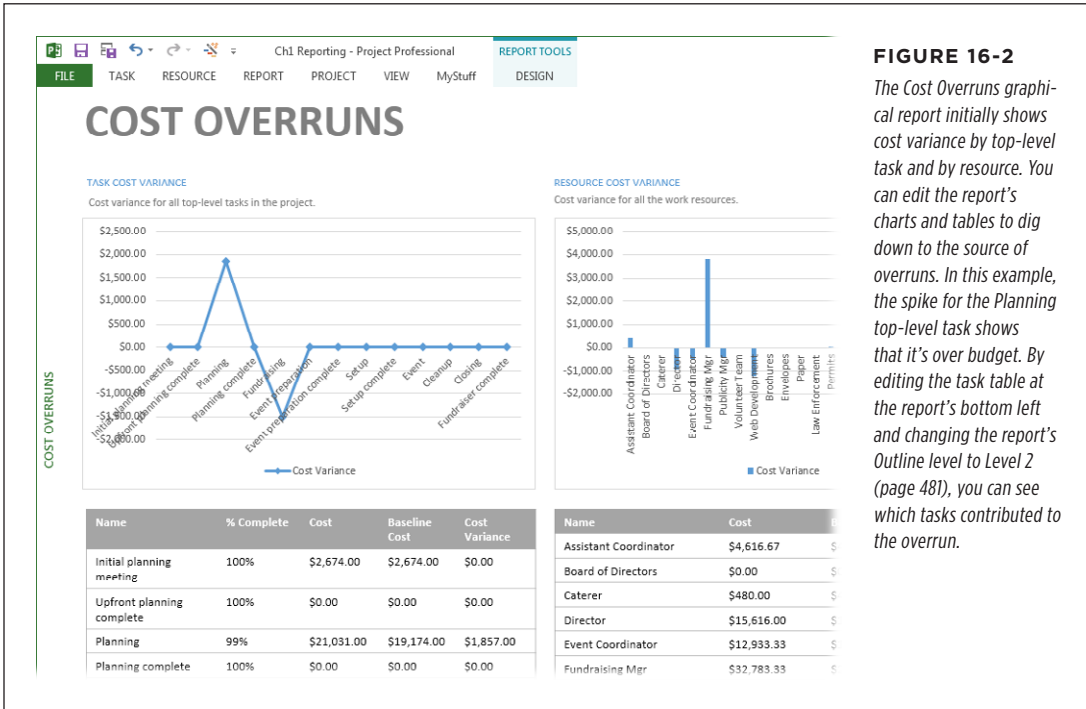

FIGURE 16-2
- **Cost Overruns.** This graphical report (Report→Costs→Cost Overruns) shows cost variance by task and resource, so you can tell which portions of the project are over budget and which resources could be the culprits (see Figure 16-2).